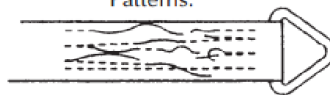

Figure 3
- Excessive abrasive wear. Figure 3.